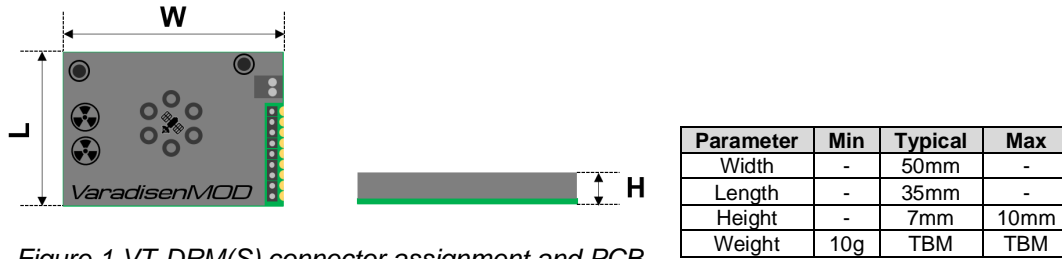

Figure 1 VT-DRM(S) connector assignment and PCB outline drawing and dimensions.
VT-DRM(S) connector assignment and PCB outline drawing are given in Figure 1, and pin description in Table 1.